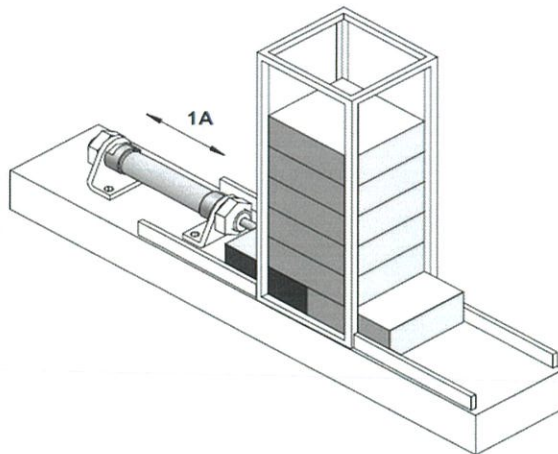

Figure 2 (c) / Rajah 2 (c)
- CLO2 (c) From the gravity-feed magazine, wooden planks are required to be transferred into a clamping device. The process is initiated by pressing a push button switch, which activates the slide to push out one plank from the magazine. After the slide has fully reached the forward end position, it must return automatically to its starting position. With reference to Figure 2 (c), propose an electro-pneumatic circuit to operate the cylinder for this task.